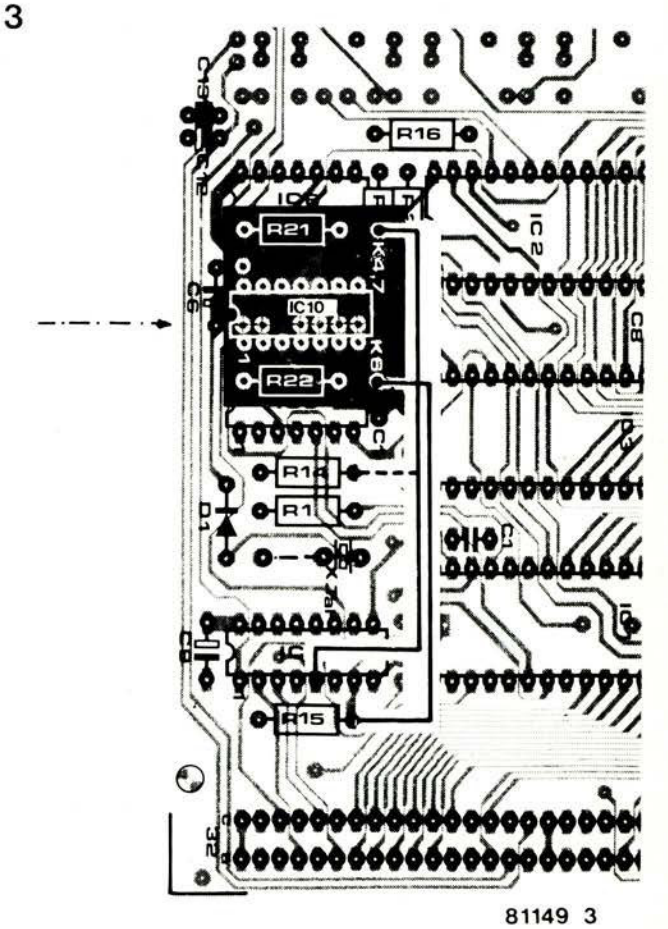

Figure 3. This is how the board in figure 2 is connected to the main board. Two wire links are involved: one leading to K6 and one to either K4 or to K6.
When an upper storey is built on to a house, it is a good idea to check the foundations and make sure the whole lot won't collapse under the strain... Actually, as far as the Junior Computer is concerned, there isn't that much to do (see Table 1) and, in any case, people who feel wary about removing components may rest assured, as they have the choice between changing resistors (for ones with a lower value) or connecting resistors in parallel to the ones already present. Don't forget to modify the wire link at point D! Point D should now be connected to point EX. Readers with the intention of using the Printer Monitor (PM) program, including the step by step reading facility, should include the circuit shown in figure 2b. This is a special module which can be mounted on the main board in the manner indicated in table 2. The module's component overlay and printed circuit board are shown in figure 1. Figure 3 shows how to mount